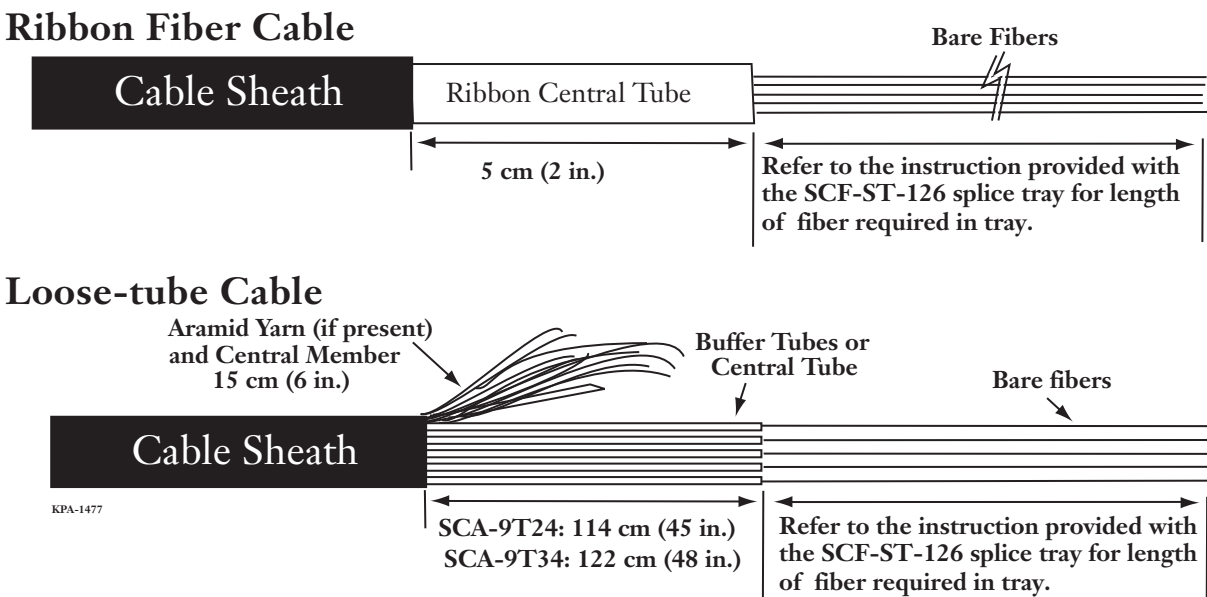

Figure 4 — Recommended Endspan Sheath Removal Lengths
- For endspan applications where the cable will be terminated to pigtails, remove cable sheath as shown in Figure 4.